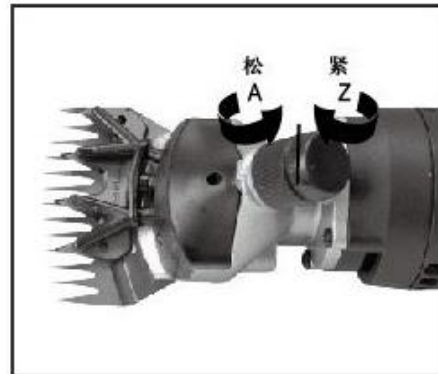

Fig. 2 (Adjusting Nut)
- 1.2 Adjust the tightness of blades by rotating the adjusting nut clockwise (see Fig. 2) until a resistance is felt. Rotating the adjusting nut anti-clockwise will loosen the blades (see Fig. 2).
5. Clean dirt on the blades. After the completion of one sheep shearing, rotate the adjusting nut anti-clockwise (see Fig. 2) until blades can be removed. When the blades are removed, clean dirt built up on the lower blade as well as dirt buildups inside the upper blade. In doing so, these two blades can closely fit.